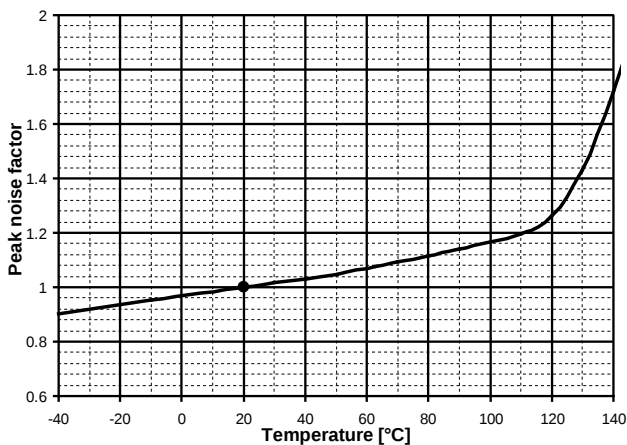

Fig. 13: Peak noise factor Vs Temperature *
* On Fig. 13, temperature coefficient of the magnet is included